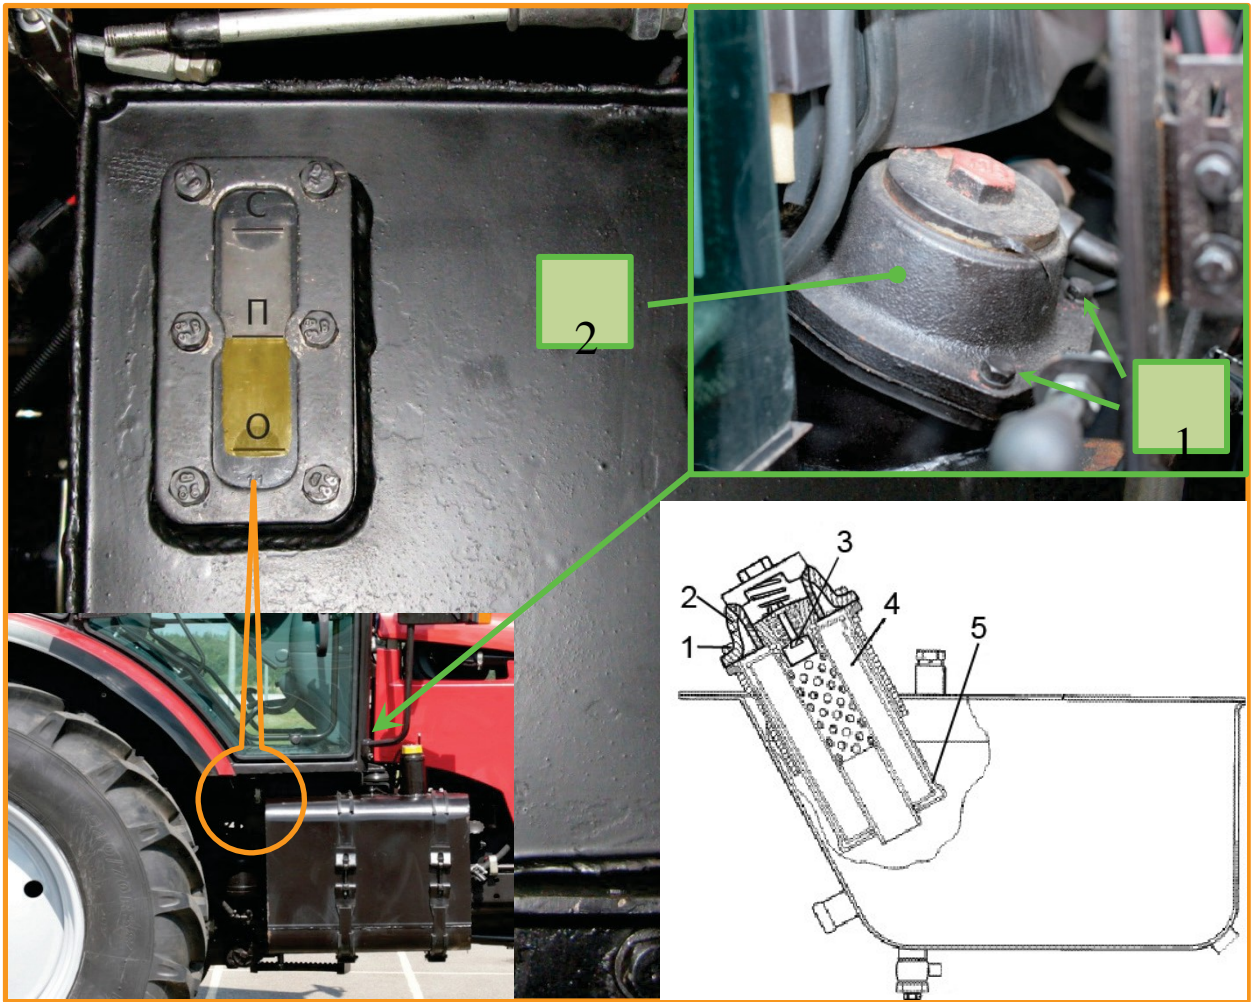

Figure 8.41
- Remove the filter element (2);
- Clean the inner chamber of the barrel (1);
- Install a new filter element, refit the cap assembly (4) ) and tighten the bolts (3).
**Procedure 33. Replacement of the Filter Element of the HPS Oil Tank (fig. 8.41)**